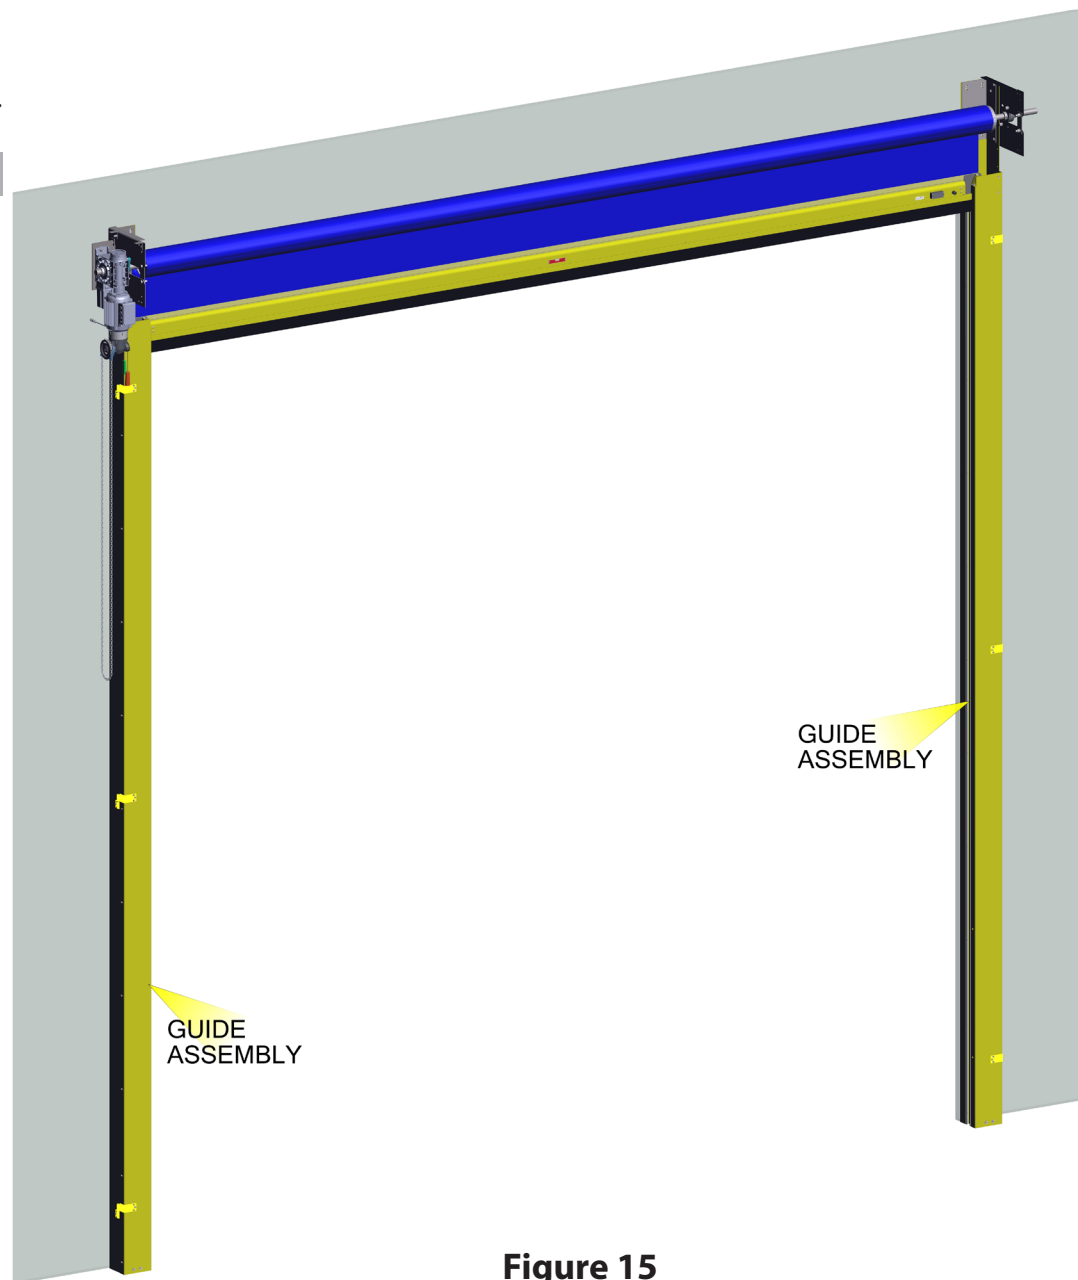

Figure 15
- Using the bolts and washers provided attach the front guide to the floor bracket at each slotted hole locations, as shown in **Figure 15**.